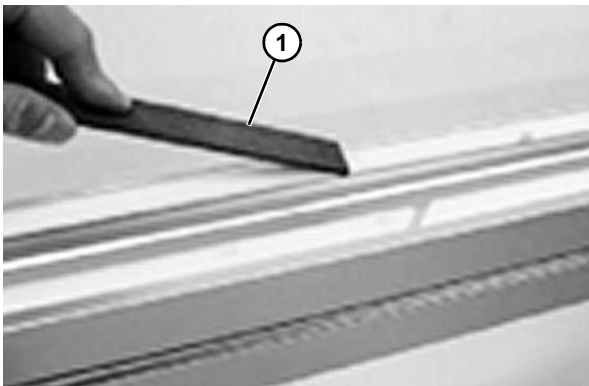

Figure 43
3. After the cut, make sure the slide rail surface is smooth and the nylon screws do not protrude over the slide rail surface. Use a file (**Figure 43, item 1**) to file off the protruding edge if uneven surface is found.